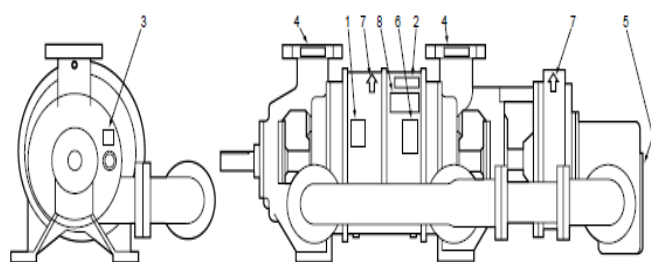

Figure 1.4. Location of Nameplate and Labels
a. Every pump is equipped with nameplates and labels designed to highlight warnings, cautions, and provide essential information. The NES nameplate (refer to Figure 1.4, Item 1) located on the pump body contains specific data crucial for inquiries related to parts, service, or assembly/test data.
c. The preservation warning label (see Figure 1.4, Item 8) serves to indicate the type of preservative used to shield the pump from rust formation. This preservative must be flushed out before commissioning (refer to Paragraph 6.3 for detailed instructions), and the resulting waste must be disposed of in adherence to national and local regulations.